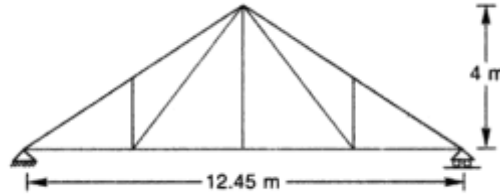

Figure 1
- 9 Design a steel roof truss shown in Figure 1 for a clear span of 12.0 m. the truss is **12M** supported over masonry columns 45 cm x 45 cm trusses are placed 3 m c/c and support galvanized iron sheet on rafters and steel purlins. The rise of the truss is 1/3 of span. The design wind pressure may be assumed to be  $1000\text{N/m}^2$